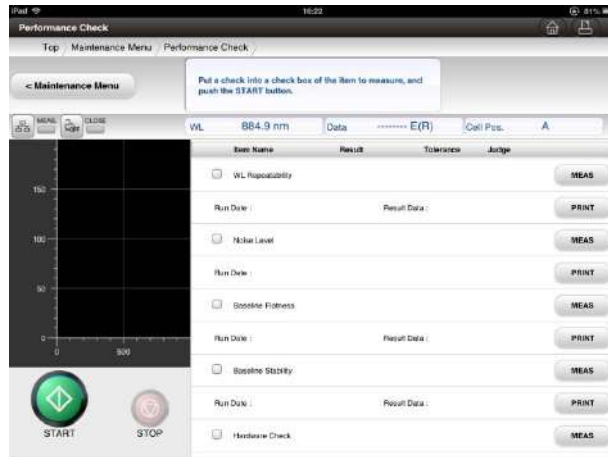

Fig. 6-7 Performance Check Screen
- (1) Display the Performance Check screen (Fig. 6-7). Press the  button on the right edge of the item name “WL repeatability.” Then, the Wavelength repeatability check is performed.